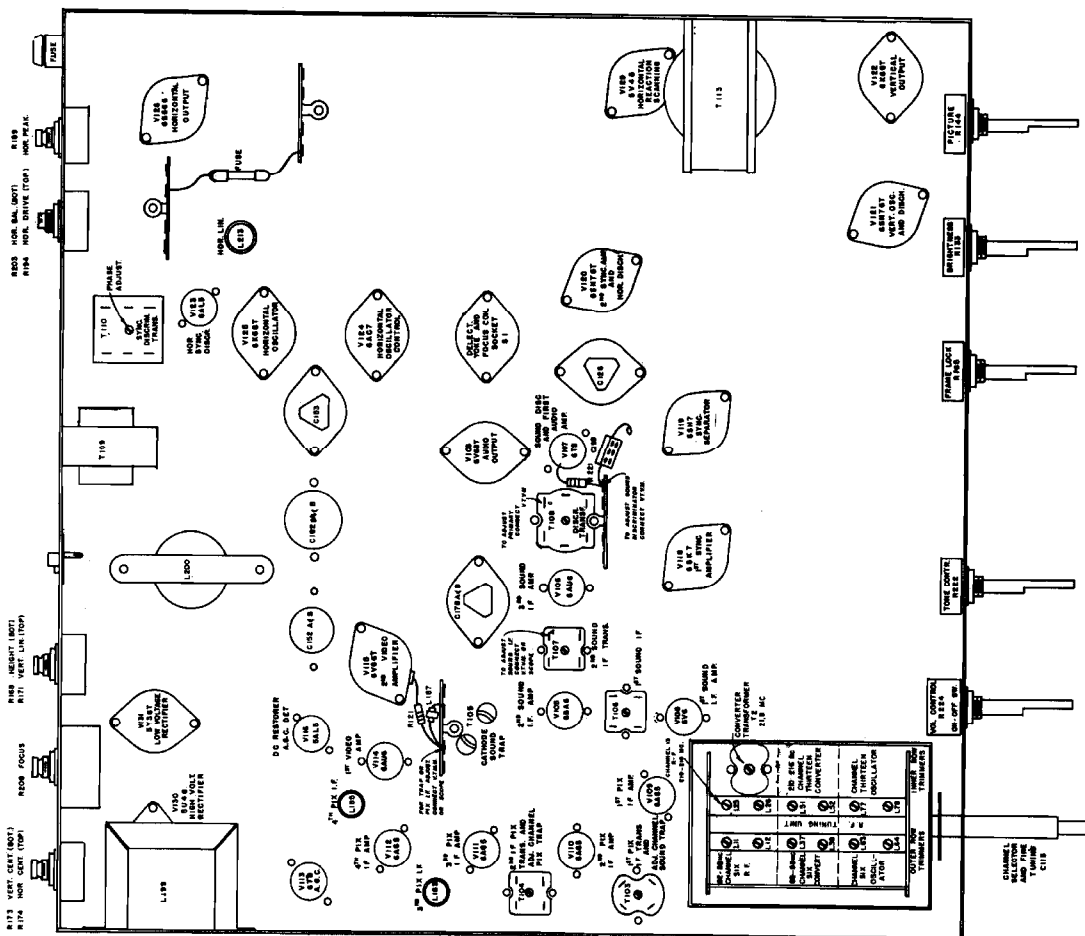

FIGURE 11- CHASSIS BOTTOM VIEW MODEL 77
8. Horizontal Phase Adjustment (See Fig. 11)
Sweep generator to antenna terminal. Marker generator to sweep generator. Trant locations show in Figure 11. RF response in Figure 17.